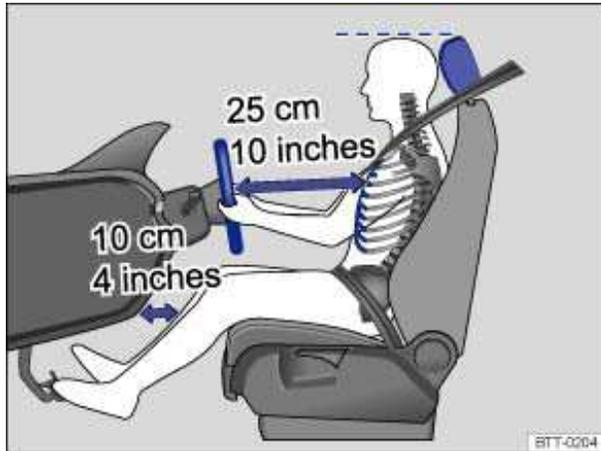
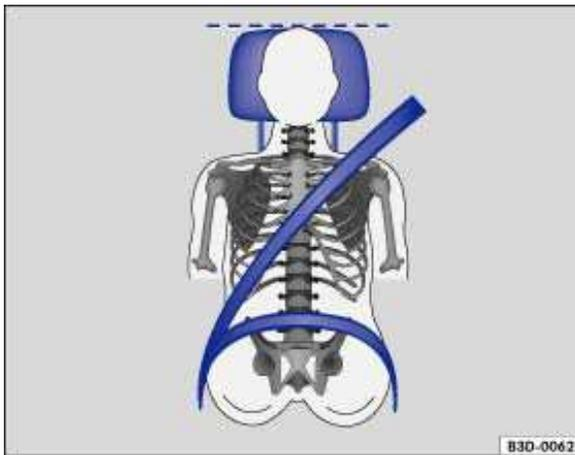

Fig. 39 The driver should never sit closer than 10 inches (25 cm) of the steering wheel.
Fig. 40 Proper safety belt positioning and head restraint adjustment.
- Adjust the head restraints so that the upper edge of the head restraint is at least at eye level or higher. Position the back of your head as close as possible to the head restraint ⇒ fig. 39 and ⇒ fig. 40.
- Adjust the steering wheel so that there are at least 10 inches (25 cm) between the steering wheel and your breast bone ⇒ fig. 39. When adjusting the proper distance to the steering wheel, grasp the top of the steering wheel with your elbows slightly bent.